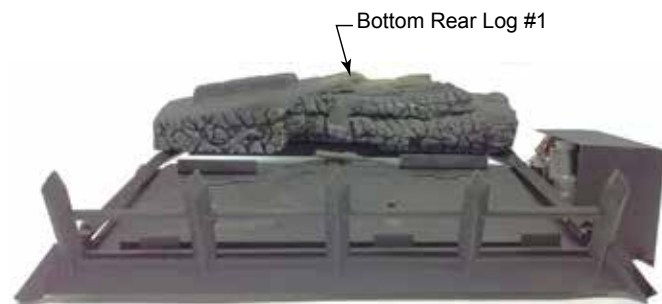

Figure 51
1. Place bottom log (#1) on two (2) pins on rear of grate assembly and push towards rear as far as possible. Figure 51